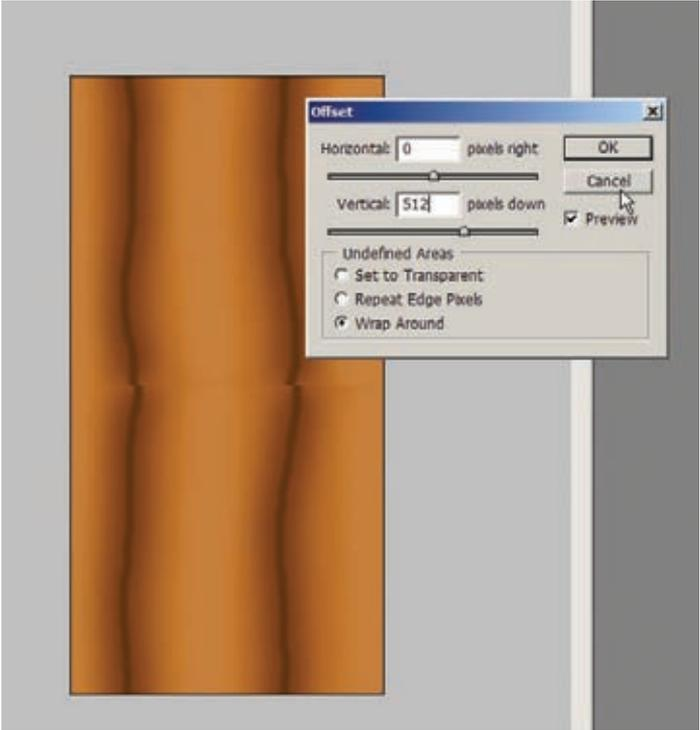

Figure 2.35
10. Once again apply the Offset filter and remove the 256 from the horizontal slider (making it 0) and type 512 into the Vertical slider, inputting half of the height of your image. This offset result gave me an obvious seam that I'll need to fix in the next steps (Figure 2.35).